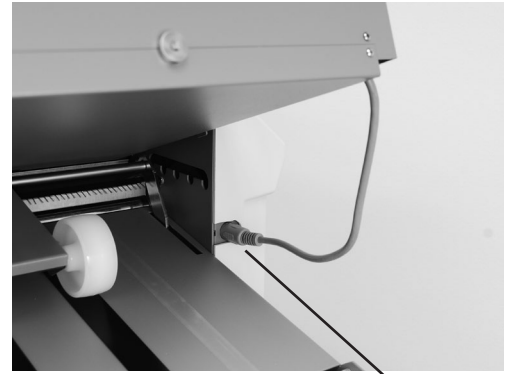

Fig. 3a
4. Plug the fold table cables in to the receptacles on the side frame (Fig. 3a & 3b).